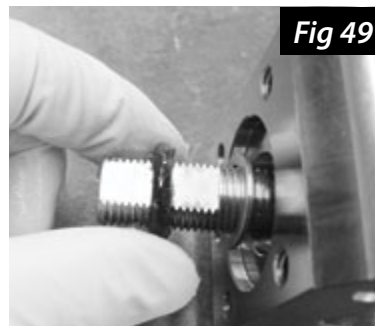

Fig 49
3. Position one of the two new brass bushings over the stem. Apply a liberal amount of vacuum grease around the inside and outside of the new stem seal o-ring. Slide the o-ring onto the stem (Fig 49). Next, slide the second new brass bushing on the stem. **Note: Applying sufficient vacuum grease will reduce stem o-ring wear and extend the life of the stem seal.**